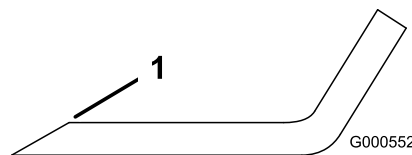

Figure 83
1. Use a file to sharpen the cutting edge at both ends of the blade (Figure 83).
**Note:** If the blade is not balanced, file some metal off the end of the sail area only (Figure 83).